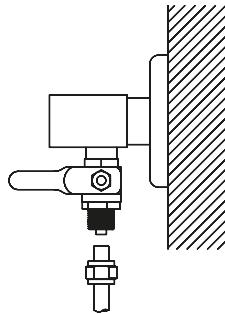

Figure 6. Mains inlet valve
- Mains water is supplied to the system by opening the 1/4" ball valve (Figure 6). It is seen that the pump is running.
- If the appliance will not be used for a long time (such as more than 1 month), the inlet water valve must be closed (figure 6), the adapter should be plugged out and the authorizes service must be called to disinfect the appliance when reactivating.
- When there not anyone in the house, close the water inlet valve of the appliance for safety purposes (Figure 6).
- In any unfavorableness (Figure 6) close the water inlet valve and consult Aura Cebilon Authorized Service.